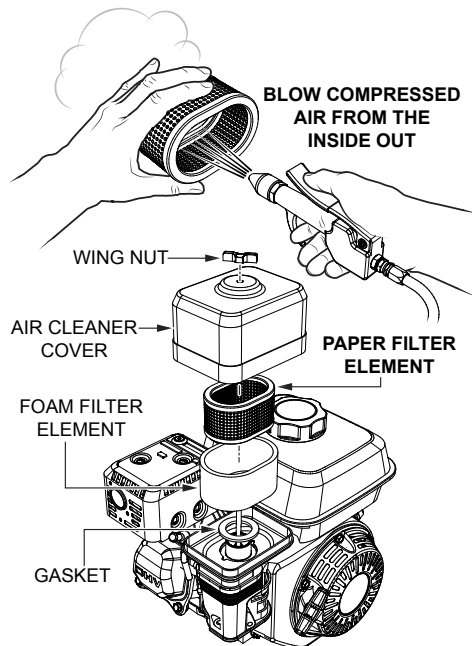

Figure 32. Engine Air Cleaner
1. Remove the air cleaner cover and foam filter element as shown in Figure 32.
2. Tap the paper filter element (Figure 32) several times on a hard surface to remove dirt, or blow compressed air [not exceeding 30 psi (207 kPa, 2.1 kgf/cm2)] through the filter element from the air cleaner case side. **NEVER** brush off dirt. Brushing will force dirt into the fibers. Replace the paper filter element if it is excessively dirty.